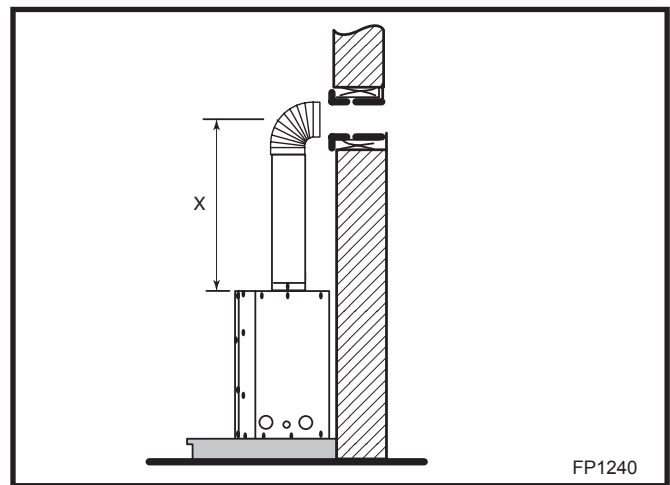

Fig. 17 Vertical height requirement.
Noncombustible Walls: (Fig. 17) Hole opening must be 7 1/2" (190 mm) in diameter.
Place fireplace into position. (Fig. 17) Measure the vertical height (X) required from the base of the flue collars to the center of the wall opening.